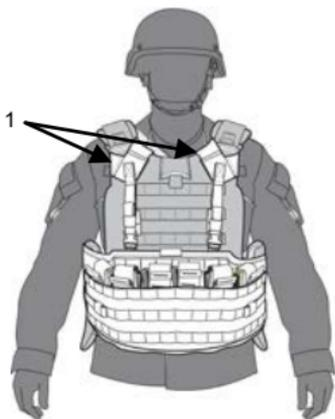

Figure 13. Attaching TAP to SPCS.
8. Use the male release buckles to secure the TAP to the female SPCS adapters (Figure 13, Item 1).